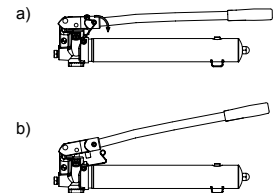

Figure 8 - Pull stem upward before use, press down when moving or storing pump.
- Push the handle lock latch to unlock the pump handle (Fig. 8).